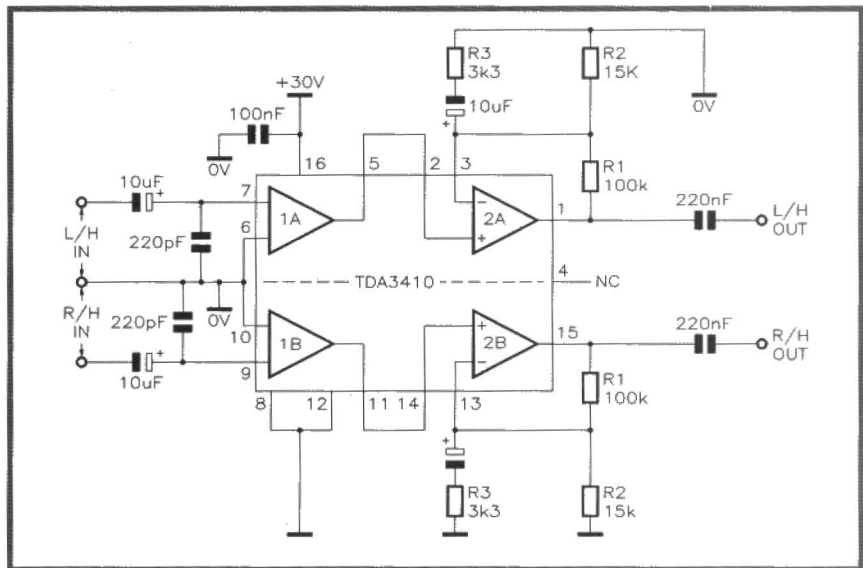

Figure 29. TDA3410 stereo preamp circuit with an overall voltage gain of 60dB (= x 1,000).
another popular dual preamplifier, the TDA3410, which is an ultra low noise device that generates very little distortion and can operate from any single-ended supply voltage in the range 8 to 30V. Figure 29 shows a practical application circuit for this IC.
30dB (= 32 times), and at any given moment can accept one or other of two pairs of stereo input signals, which are applied to pins 7(9) and 6(10); the desired input signal can be selected by applying a suitable control voltage to the input switch pin 12 of the IC. When this pin is grounded (as in Figure 29), internal analogue switches clamp pin 6(10) to ground and pin 7(9) is enabled; if pin 12 is
The two input terminals of the first amplifier each have an input impedance of about 80k Ω . This amplifier stage can provide maximum undistorted output signal swings of about 2V Pk-to-Pk, and should not, therefore, be driven by inputs greater than 63mV Pk-to-Pk. The output pin 5(11) of the first amplifier can be wired directly to the input pin 2(14) of the second amplifier, if desired, as shown in Figure 29.
The second amplifier can be used like a normal op amp, as shown in Figure 29, where its DC voltage gain (bias) is set via
In the example shown, the AC gain is set at about 30dB, and under this condition the amplifier's power bandwidth exceeds 22kHz. This amplifier can provide maximum undistorted (THD less than 0.05%) output signals of about 6V Pk-to-Pk. Thus, in the application circuit of Figure 29, the IC gives an overall voltage gain of about 60dB (= 1,000 times), and hence a 1V Pk-to-Pk output from a 1mV Pk-to-Pk input. Under this condition the